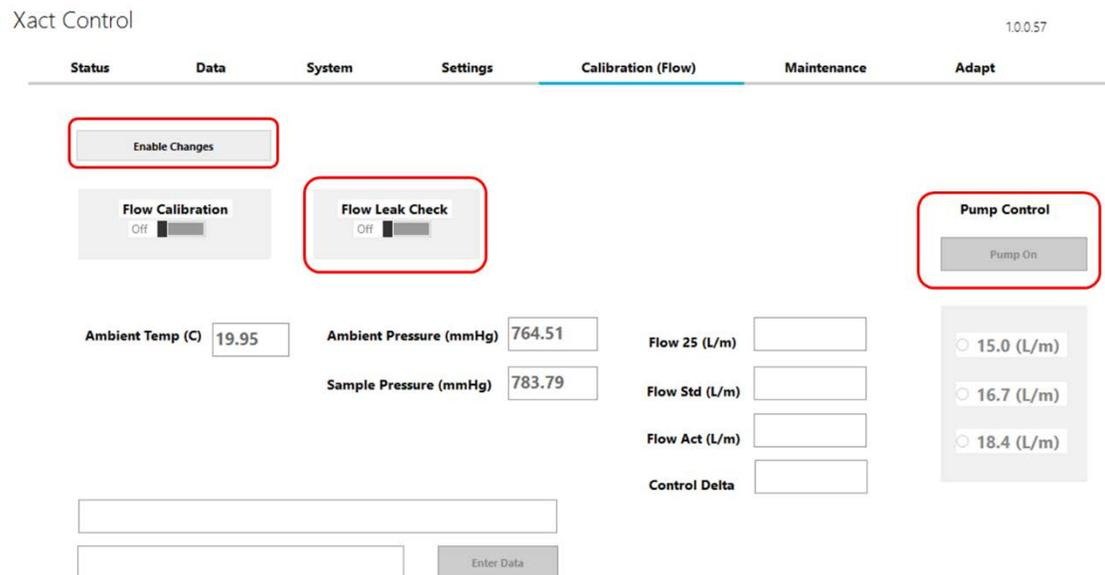

Figure 10.4 Settings for Leak Check.
- Click on “Flow Leak Check” toggle to ON (**Figure 10.4**). Slowly close the sample inlet ball valve.
- Wait until the pump turns off (**Figure 10.4**). Close Xact 625i’s pump ball valve and click “Pump Off”.